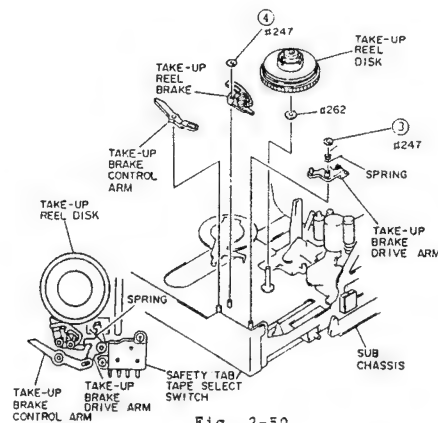

Fig. 2-50
- 1) Pull out the take-up brake control arm from the sub chassis. (See Fig. 2-50)
- 3) Remove one (1) washer and pull out the take-up brake drive arm from the sub chassis.
- 4) Remove one (1) washer and pull out the take-up reel brake from the sub chassis.